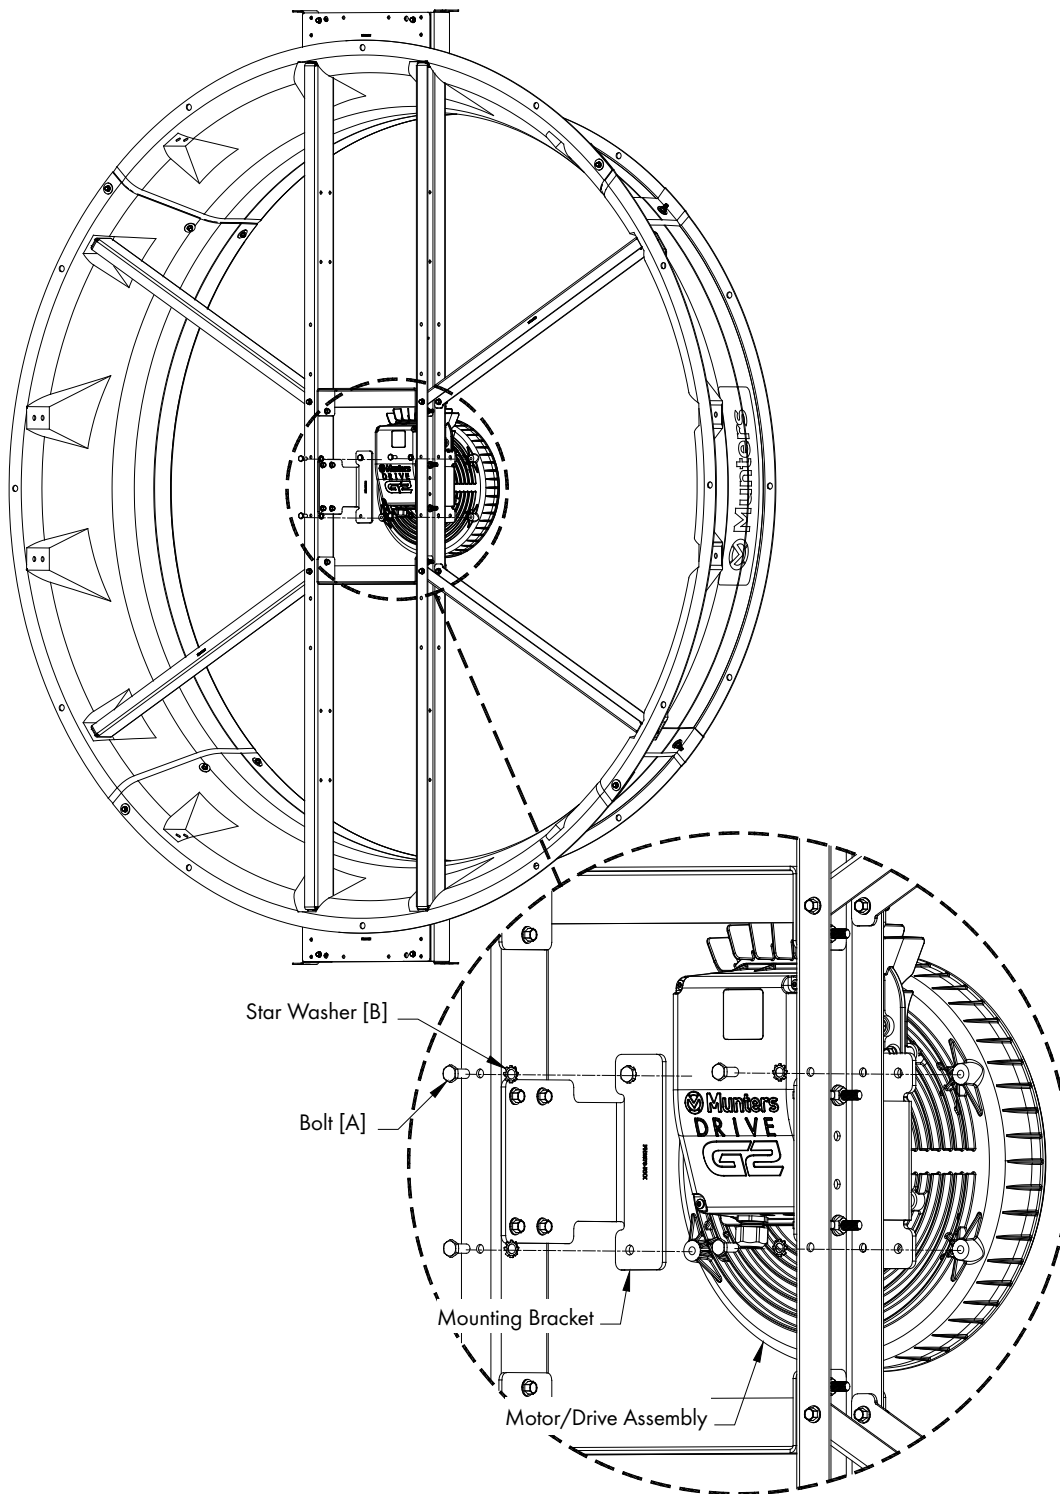

Figure 18
Carefully lift Motor/Drive into place and secure in place using (4) Bolts [A] and Star Washers [B]. Tighten Bolts to 60 in-lbs. [6.8 Nm] of torque. See Figure 18.